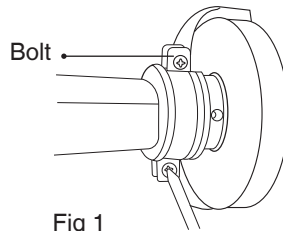

Fig 1
■INSTALLING OR REMOVING WHEEL GUARD (FIG1)